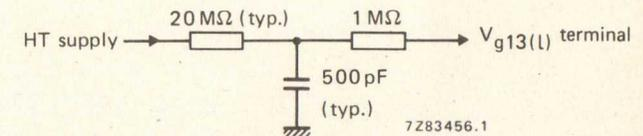

Fig. 7.
1. These values are valid at cut-off of both flood guns and the writing gun. The H.T. unit must be capable of supplying 0,5 mA. To protect the tube against excessive surge current during erasure, an adequately dimensioned RC-network must be connected in series with the screen terminal lead (Fig. 7).